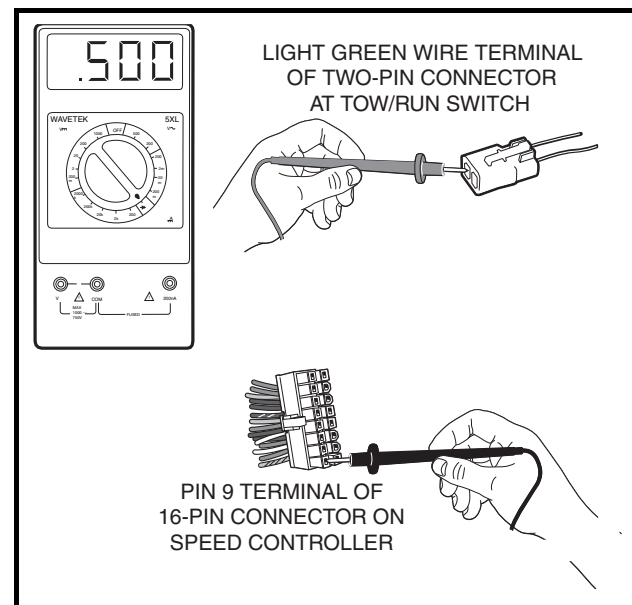

Figure 11-20 Diode Test – Probes Reversed
5. Reverse the multimeter probes and note the reading. With the black (–) probe of the multimeter on the pin 9 terminal of the multi-pin connector and the red (+) probe of the multimeter on the light green wire at the Tow/Run switch, the meter should read approximately 500 mV; however, a range of 400-600 mV is acceptable (Figure 11-20, Page 11-32).